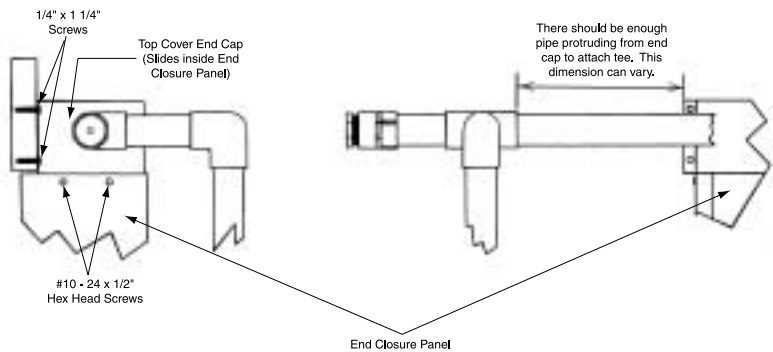

Figure 12
2. Next, attach the end closure panel to the top cover end cap with #10 - 24 hex head screws and whiz lock nuts (see figure 12). Install the end closure panel and top cover end cap on the opposite end in the same manner.